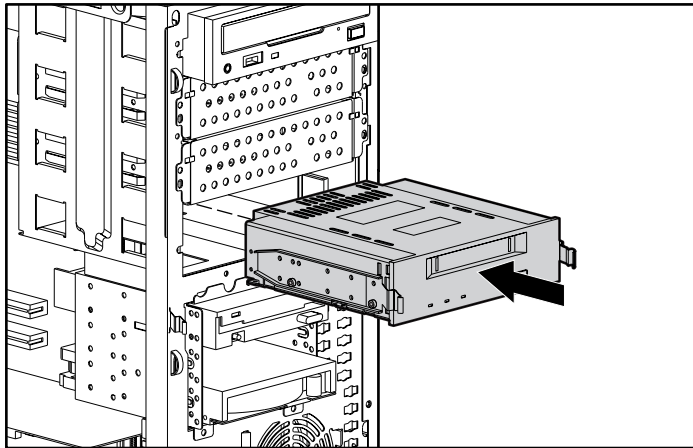

Figure 3-17. Installing a tape drive
3. Slide the drive into the drive bay, as shown in Figure 3-17.